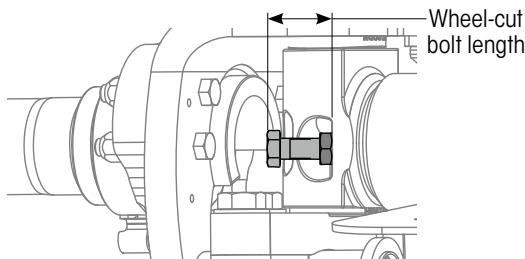

Figure 21: Wheel-cut bolt length measurement before March 2024
6. **Measure** (Figure 21, and 21A) and **record** current wheel-cut bolt length. Refer to Table 6 on page 19.